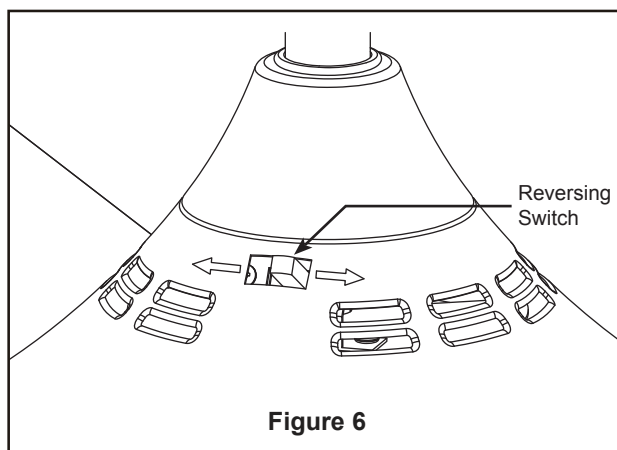

Figure 6
6. If airflow is desired in the opposite direction, turn the fan off and wait for the blades to stop turning. Then slide the reverse switch on top of motor assembly to the opposite position and turn fan on again. (Figure 6)